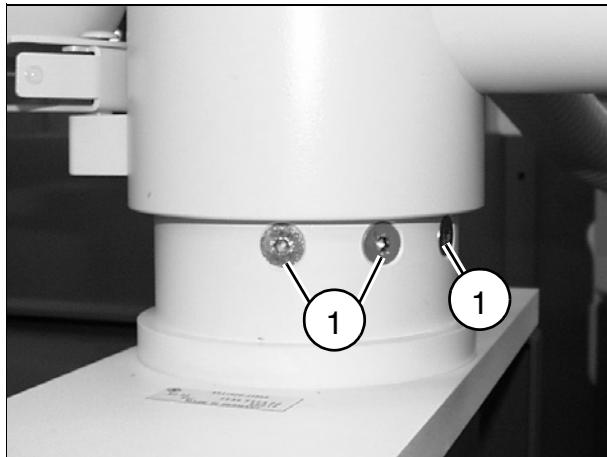

Fig. 34
- Remove the 3 screws (1/Fig. 34). Take out the spring mount.